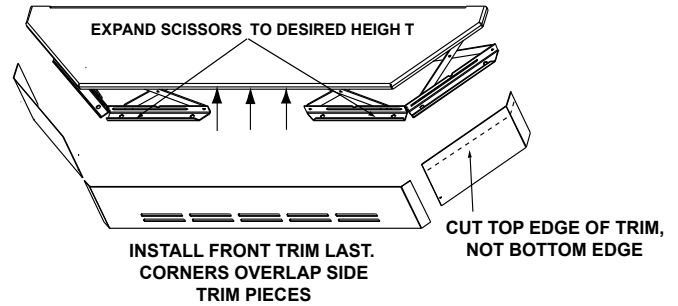

Figure 24.2
2. Expand scissors to desired height. Tighten screws to hold in place using Phillips Head screwdriver (**Figure 24.2**).
3. Measure front and side trims to required height to cover scissors and mark pieces for cutting. Cut excess material from top of trims edge, not bottom. This edge will be sharp; wear gloves to prevent injury to your hands (**Figure 24.2**).